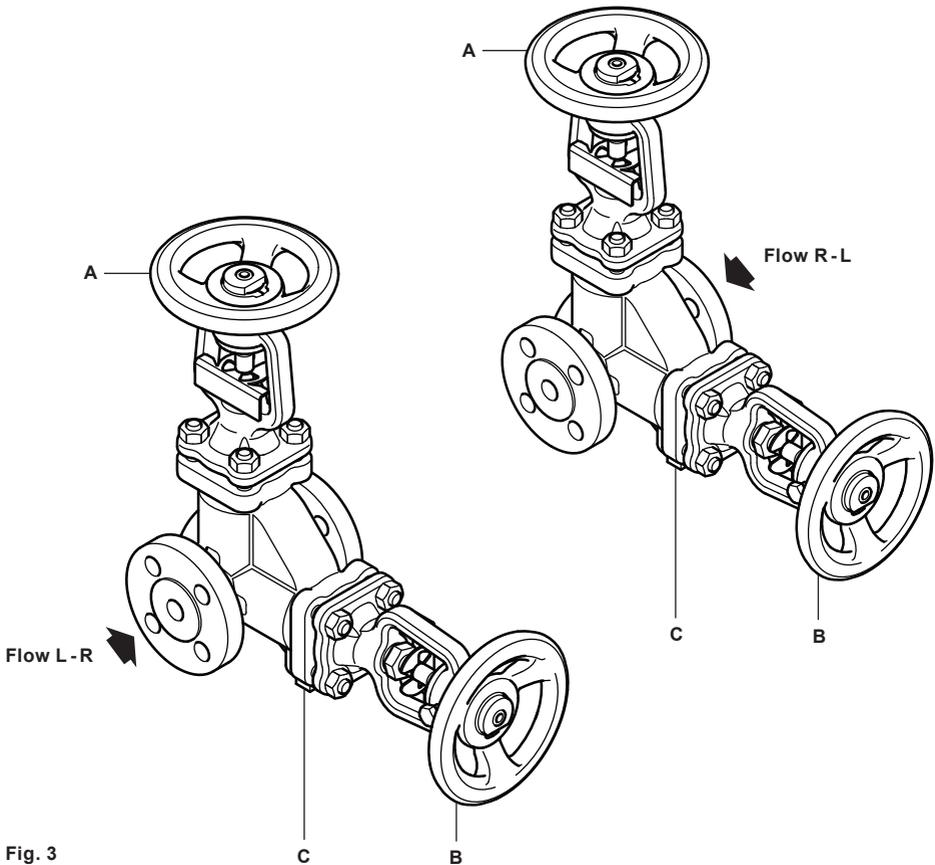

Fig. 3
- 5.4** A Valve Integrity Test must be undertaken prior to each double isolation of the system. Refer to Figure 3 and the Table below for correct sequence of operation.
- 5.5** Before undertaking any maintenance of plant downstream of the valve both handwheels should be isolated. Refer to Figure 3 and the Table below for the correct sequence of handwheel operation. When handwheels **A** and **B** are closed and drain port **C** is opened there will be an initial discharge as the valve depressurises. If there should be any visible discharge after a short period, consult Spirax Sarco Service Department.